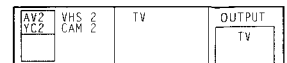

Fig. 46.
- 3 Select the desired source with Δ + or ∇ -. (See Fig. 46)